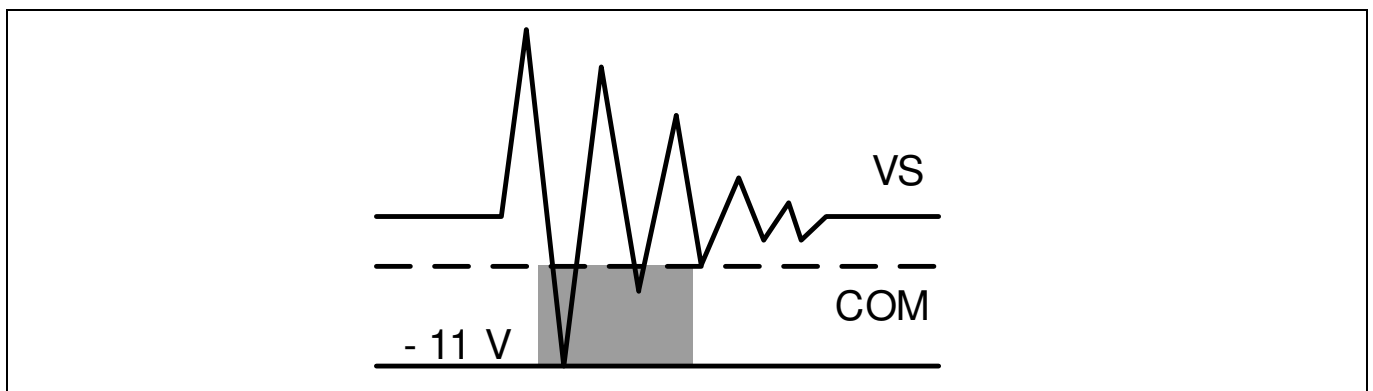

**Figure 22 Negative VS transient SOA for 2ED2109 (4) S06F (J) @ VBS=15 V**
Infineon’s HVICs have been designed for the robustness required in many of today’s demanding applications. An indication of the 2ED2109 (4) S06F (J)’s robustness can be seen in Figure 22, where the 2ED2109 (4) S06F (J)’s Safe Operating Area is shown at  $V_{BS}=15V$  based on repetitive negative  $V_S$  spikes. A negative  $V_S$  transient voltage falling in the grey area (outside SOA) may lead to IC permanent damage; viceversa unwanted functional anomalies or permanent damage to the IC do not appear if negative  $V_S$  transients fall inside the SOA.